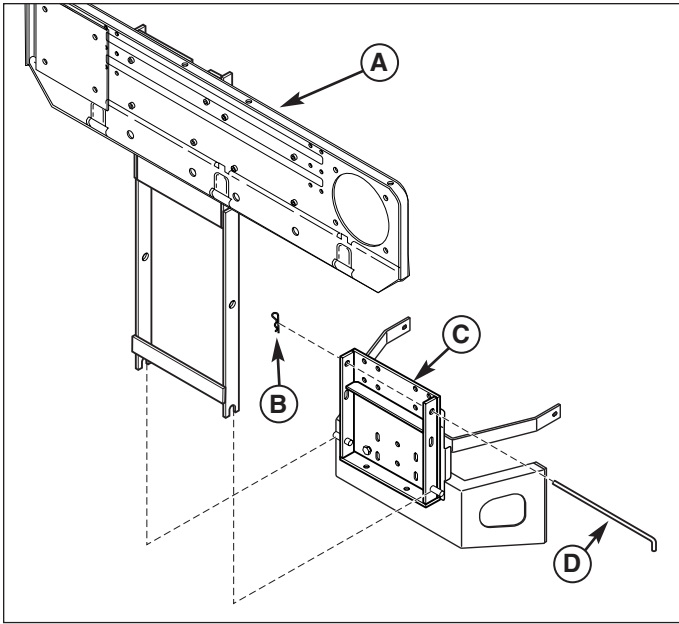

Figure 5. Install Back Plate
1. Set the back plate and support (A, Figure 5) onto pins of hitch plate (C). Secure with rod (D) and hair pin (B).